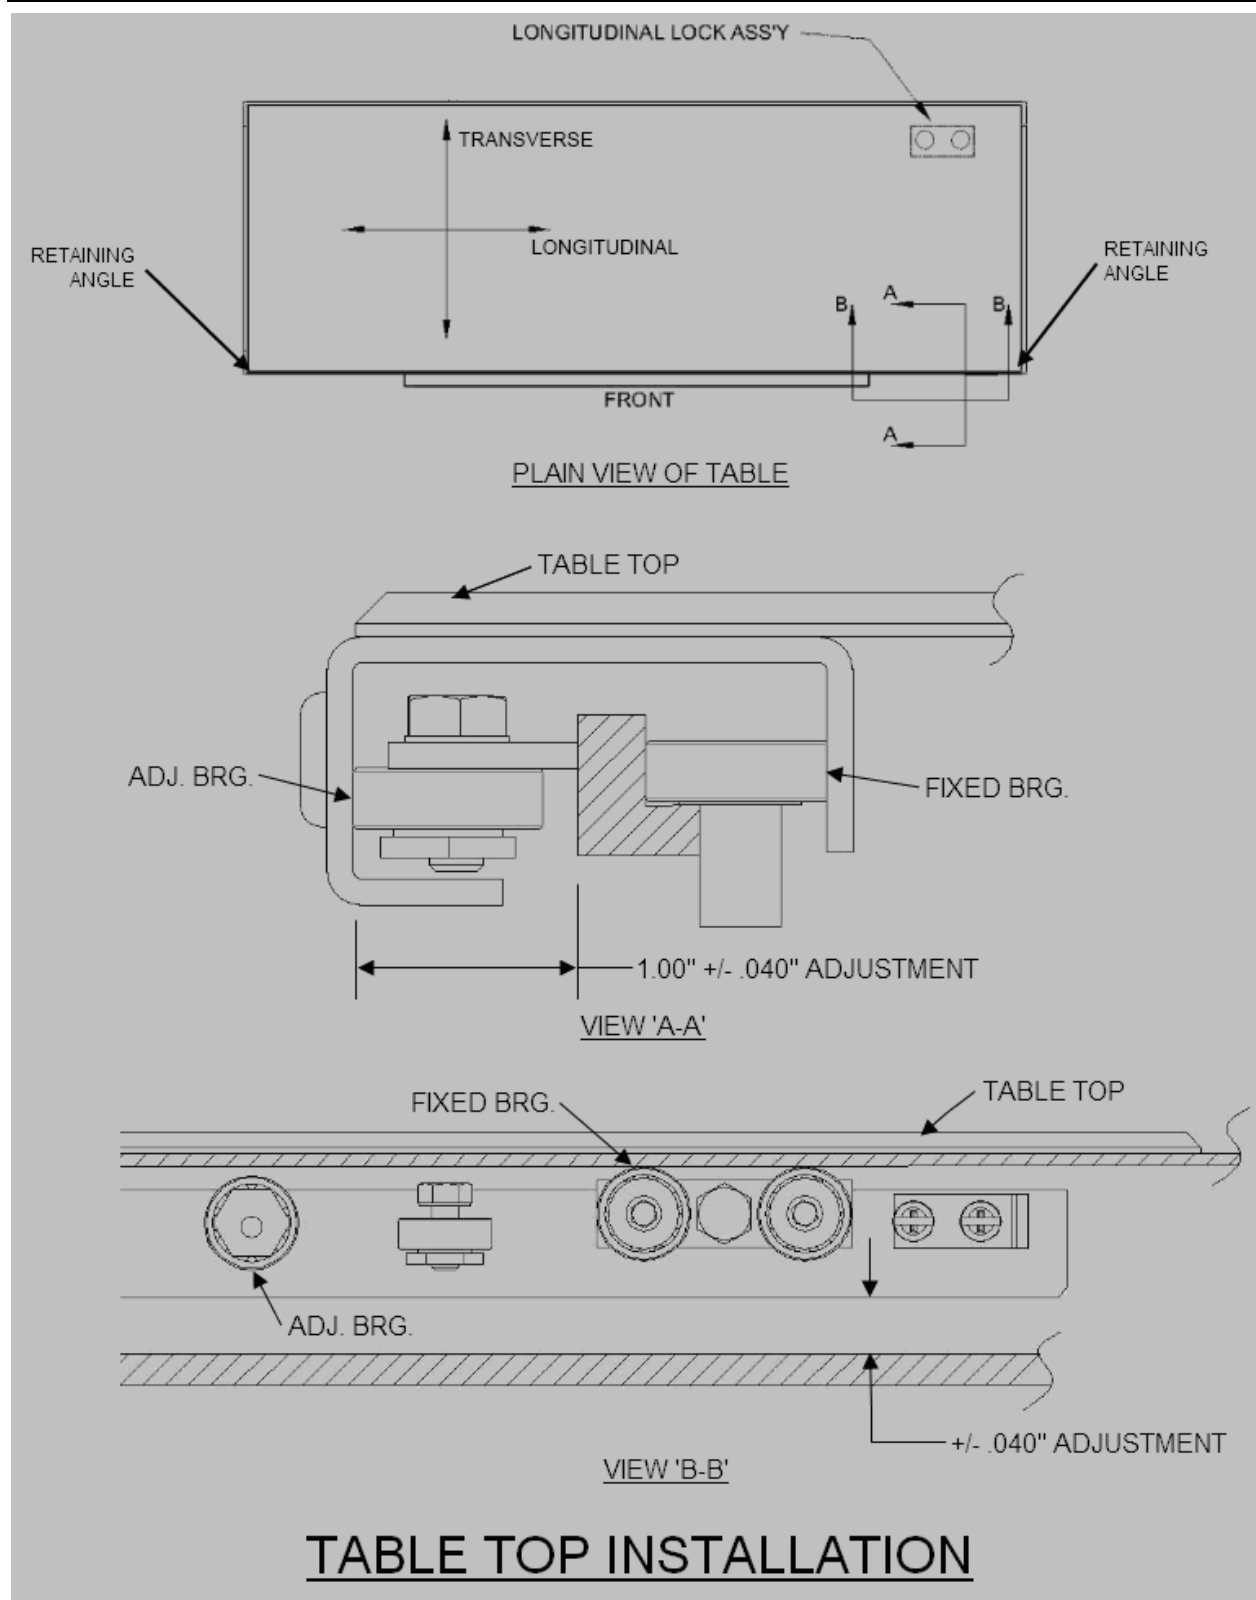

Figure 3
2. Referring to Figure 3, remove the retaining angles at each end of the table.
- a) Vertical Bearing Adjustment (Fig. 3 View 'B-B')
- b) Transverse Bearing Adjustment (Fig. 3 View 'A-A')